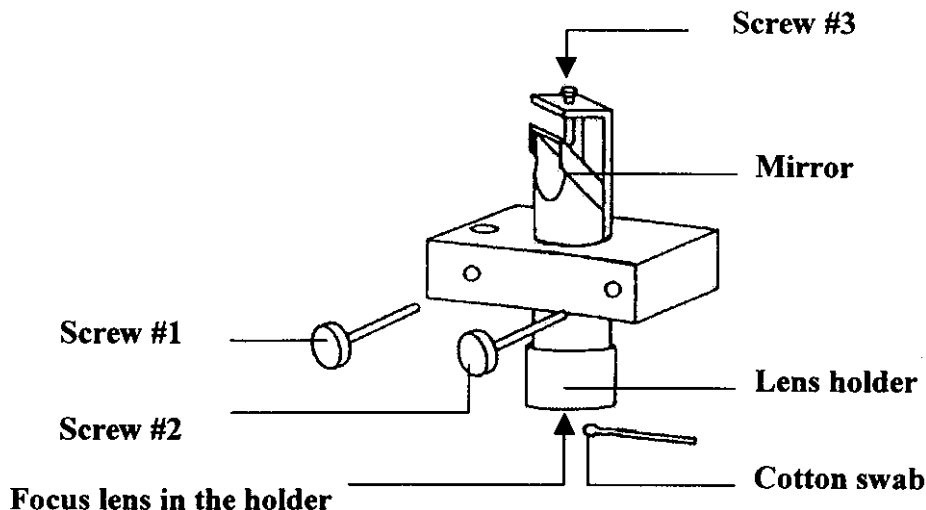

Fig. 12
1. Remove screws #1 and #2 (Please refer to Fig.12)